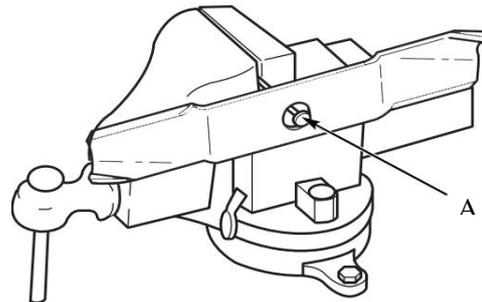

Figure 13
6.10.3 Keep the original bevel (A, Figure 13) when grinding. **DO NOT** change the mower blade bevel.
6.11.2 Refer to Figure 13. Put the mower blade on a nail (A) in a vise and turn the mower blade to the horizontal position.